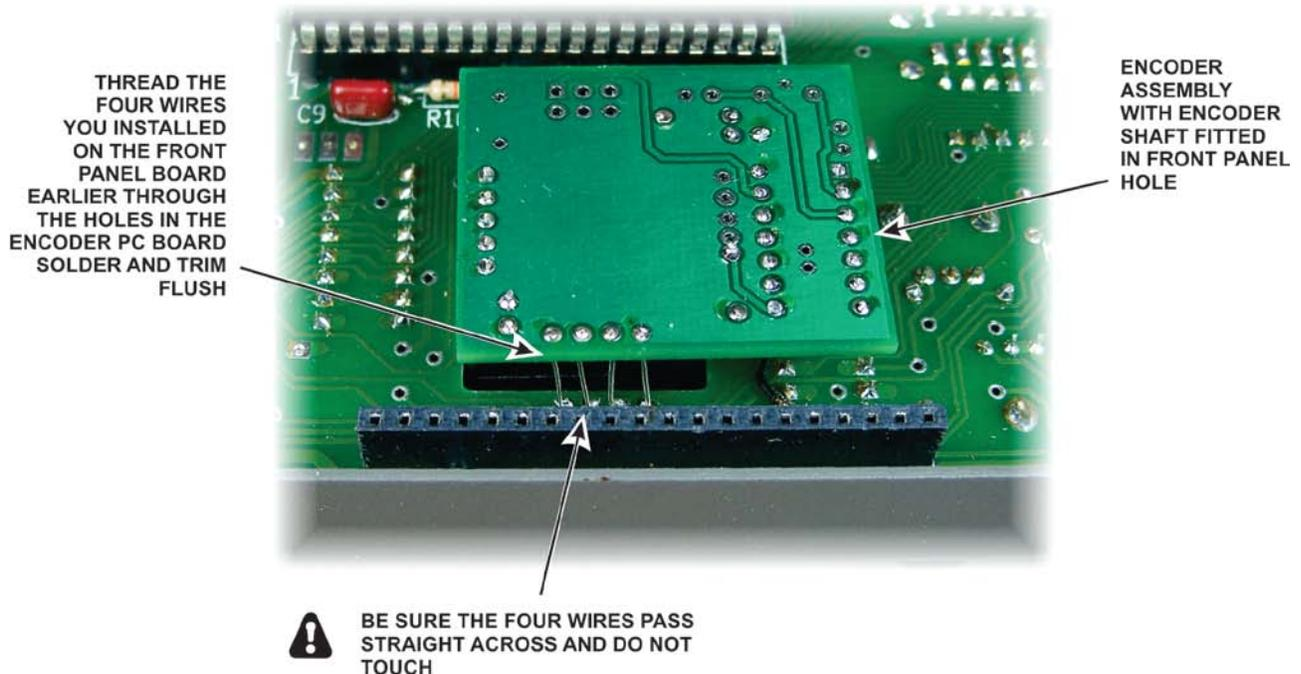

Figure 3. Installing the Encoder Assembly on the K2 Front Panel Assembly.
☐ Install the encoder in the front panel assembly as shown in Figure 3. Fit the threaded shaft of the encoder through the hole in the front panel and pass the four wires you installed on the front panel board earlier through the corresponding holes in the encoder pc board. Be sure the wires do not cross or touch each other. Solder and trim the wires flush.
- Check the non-component side of the pc board (facing upward in Figure 3) to ensure all the leads are cut flush. When installed there is very little space between it and the pc board behind it in the K2. Any excess lead length may cause a short circuit.